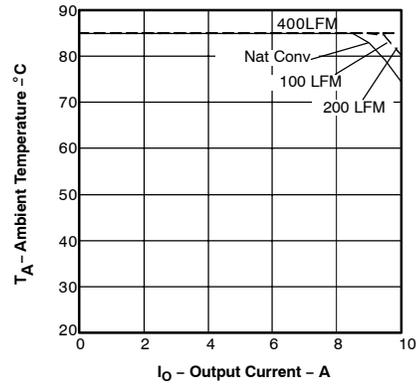

Figure 4.
- (2) SOA graphs represent the conditions at which internal components are at or below the manufacturer's maximum operating temperatures. Derating limits apply to modules soldered directly to a 4 in × 4 in, double-sided PCB with 1 oz copper. For surface mount products (AS and AZ suffix), multiple vias (plated through holes) are required to add thermal paths around the power pins. Please refer to the mechanical specification for more information. Applies to Figure 4.